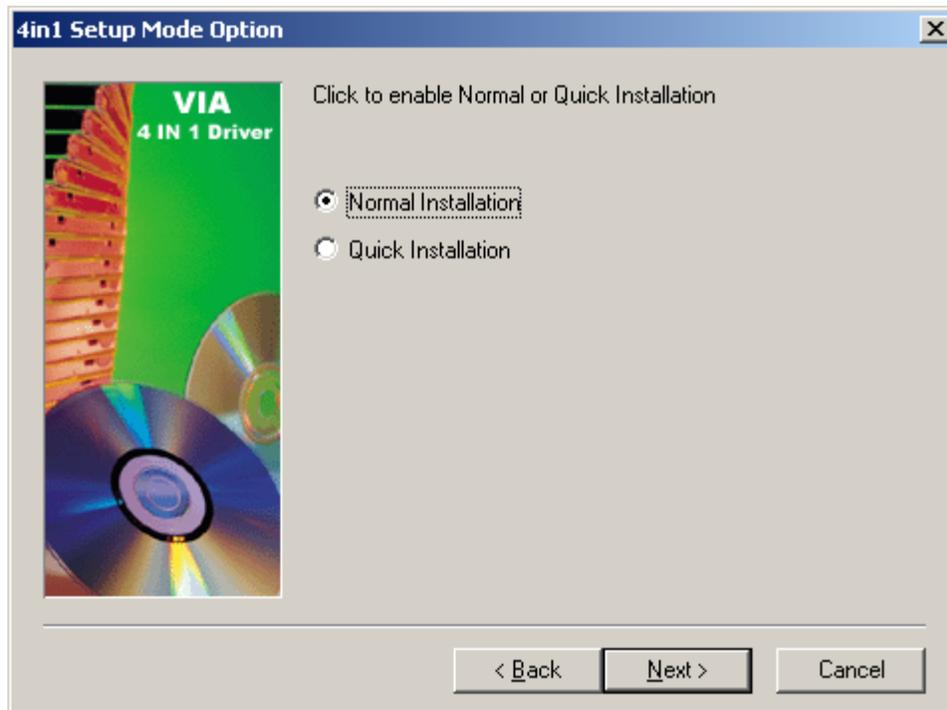

Figure 6-6: VIA Chipset Driver Installation Type
Step 7: The user is then prompted to select the installation type. A user can select “**Normal Installation**” or “**Quick Installation.**” (See **Figure 6-6**) Select the installation type and click “**NEXT**” to continue the installation.